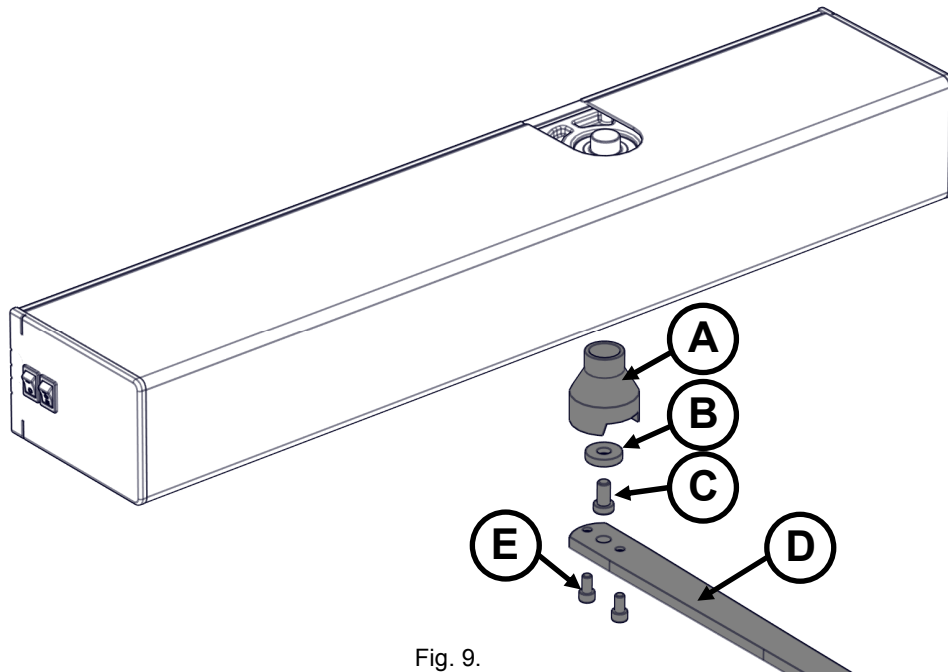
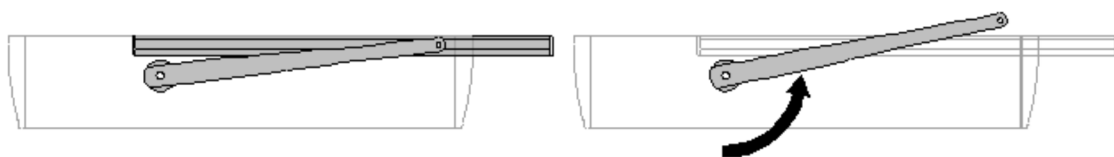

Fig. 9.
Fig. 10.
- With the door closed, find the position to introduce the arm (Fig. 9 part A) so that the ends of the arm (Fig. 4 part F) coincide with the axis of the runner pin (Fig. 4 part C).
- Remove the arm, take out the arm connection and turn it (Fig. 9 part A) 1 or 2 teeth towards the closing part of the leaf (Fig.10). Then re-insert the output axis.
- Insert the washer (Fig. 9 part B) and tighten the screw (Fig. 9 part C).
- Insert the arm (Fig. 9 part D) into the arm connection groove, and tighten the two screws (Fig. 9 part E).
- With the door closed, search for the position to introduce the arm (Fig. 9 part A), so that the arm ends (Fig. 38 part F) coincide with the skid's shaft bolt (Fig. 38 part C)
- Remove the arm, take out the arm connection and turn it (Fig. 9 part A with 1 or 2 teeth towards the leaf's closing part (Fig.10). Then, reinsert the output axis
- Introduce the washer (Fig. 9 part B) and tighten the screw (Fig. 9 part C)
- Insert the arm (Fig. 9 part D) into the slot of the arm's connection, and tighten both screws (Fig. 9 part E)
- Place the washer (Fig. 9 part B) and the screw (Fig. 9 part C) on the connection point with the arm (Fig. 9 part A).
- Place the first part of the articulated arm (Fig. 15 part D) in the arm joining cavity as shown in Fig. 9, and tighten the screws (Fig. 9 part E).
- Place the arm connection (Fig. 9 part A) on the operator output axis, so that the first part of the arm is perpendicular to the operator mounting surface (Fig. 17).
- Tighten the screw (Fig. 9 part C) so that the arm connection remains anchored to the operator output axis.